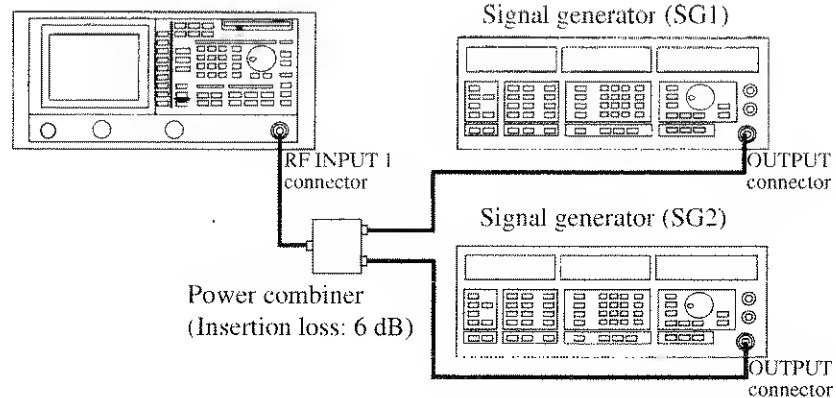

Figure 2-33 Setup for Input Saturation
1. Connect the signal generators as shown in Figure 2-33.